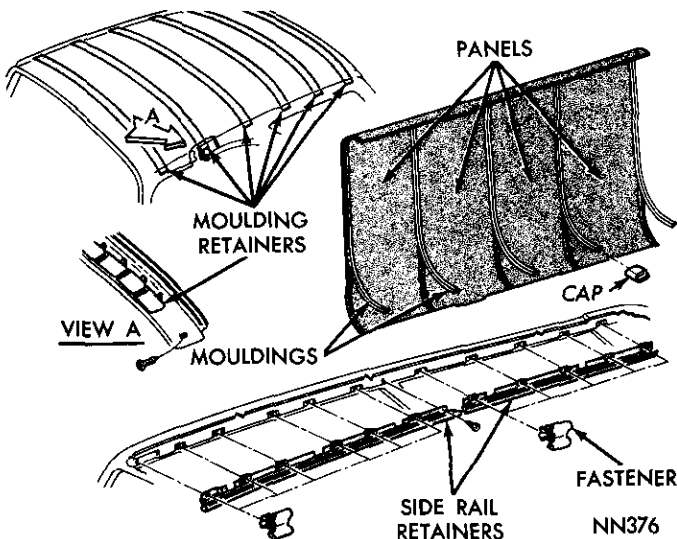

Fig. 9—Hard Type Headlining
ings (Fig. 9) forced over the retainer sections of the roof bows. Starting at either outer end, remove the end cap and pry the moulding off the retainer. When installing moulding, make certain it is fully seated and evenly spaced from side to side. Install end caps in the headliner retainer and over the moulding ends.
- (1) Remove mouldings (Fig. 9) at edges of section being removed.
- (2) Using a fibre tool force liner section off of roof bow and out of side retainers.
- (3) Inspect section for damaged edges.